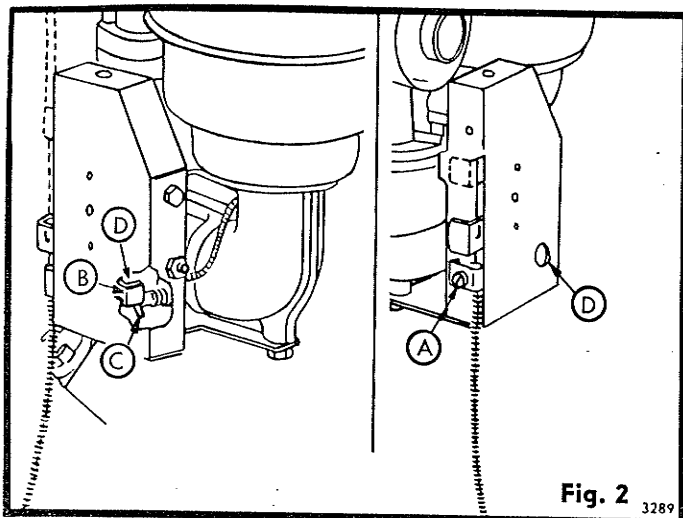

Fig. 2 3289
sary to recheck this adjustment, refer to instructions above, Fig. 2, and set control lever on handle bars to "fast" (high speed) position, then observe position of slide lever (B) through opening (D). If adjusted properly, this slide lever should be just touching the choke operating pin (C). If the unit is out of adjustment, loosen cable clamp screw (A) and move slide lever (B) up or down until it just touches the choke operating pin (C). For other information concerning the Choke-A-Matic control refer to the Briggs & Stratton engine manual furnished with your tractor.